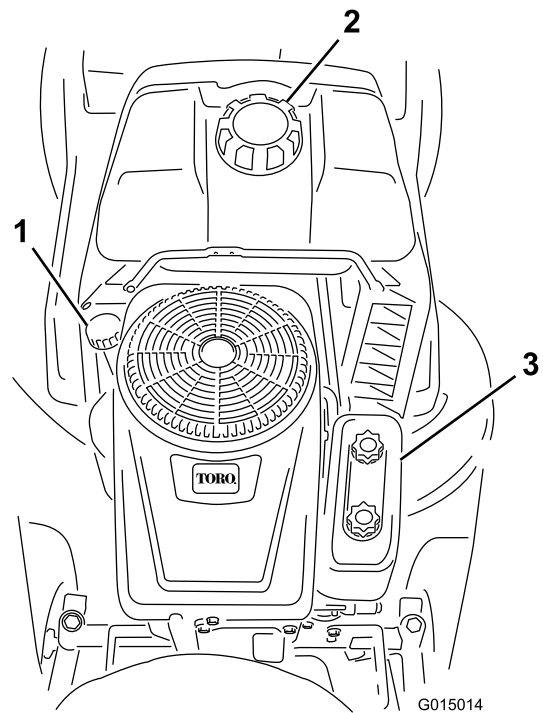

Figure 18
5. Clean around the oil dipstick (Figure 18) so that dirt cannot fall into the fill hole and damage the engine.
9. Clean around the oil dipstick (Figure 18) so that dirt cannot fall into the fill hole and damage the engine.
7. Unscrew the oil dipstick and slowly pour about 80% of the specified amount of oil into the fill hole (Figure 18).